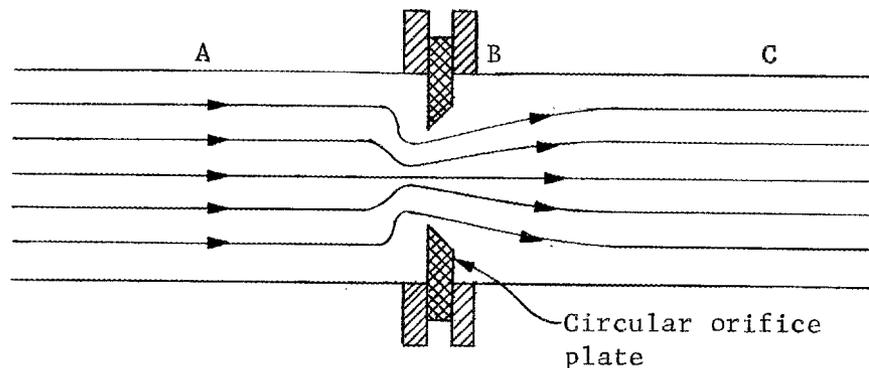

Fig. V-60. Longitudinal Section of a Pipe Showing an Orifice Between Two Flanges at a Pipe Joint
23. Fluid flow is often determined by measuring pressure differences along a pipe or across an orifice in a pipe. Let us look at Figure V-60 to see how this might be done. The lines indicate the fluid-flow path.
24. You may recall from your study of heat transfer and fluid flow that, in a constricted pipe, at the place where the fluid velocity is greatest the pressure at right angles to the flow is least. Note in Figure V-60 the resemblance of an orifice to a constriction in a pipe. At A, the velocity is low so a pressure gauge at A would read (higher, lower) than a gauge at B where the velocity is higher.